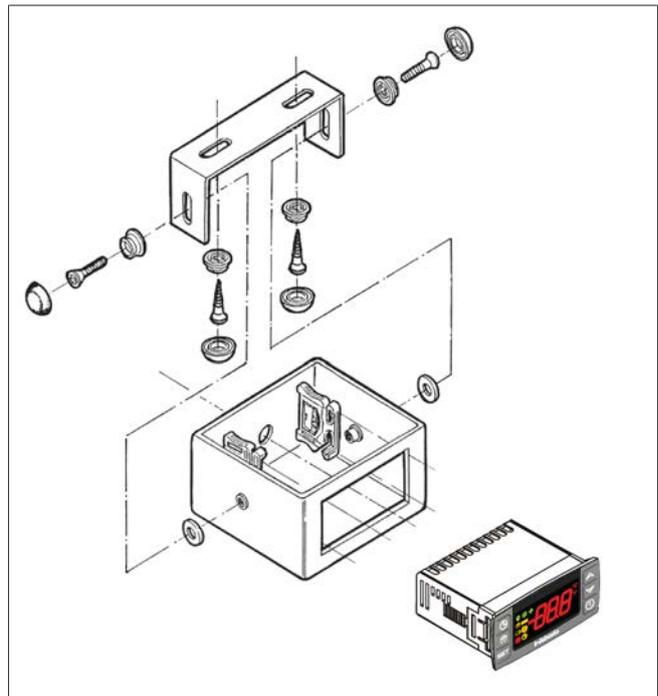

Fig. 22 Housing for the control panel
1. Mount the housing as shown in Fig. 22.